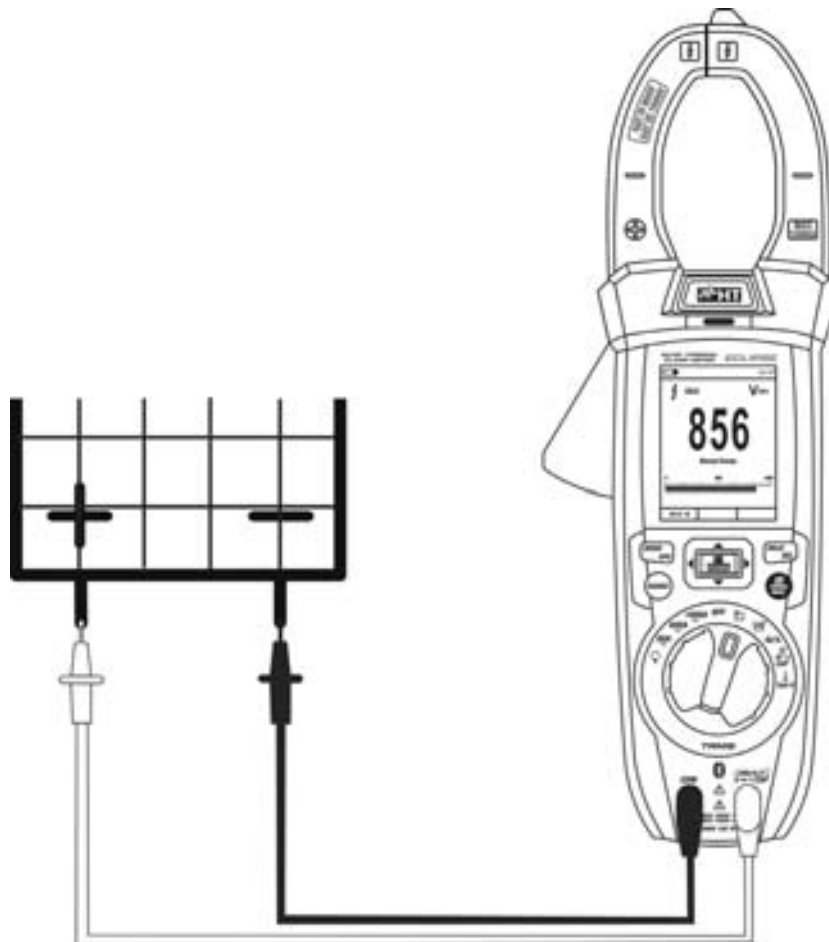

Fig. 23: Use of the instrument for DC, AC+DC voltage measurement
4. Position the red lead and the black lead respectively in the spots with positive and negative potential of the circuit to be measured (see Fig. 23). The display shows the value of voltage.
6. When symbol "-" appears on the instrument's display, it means that voltage has the opposite direction with respect to the connection in Fig. 23.